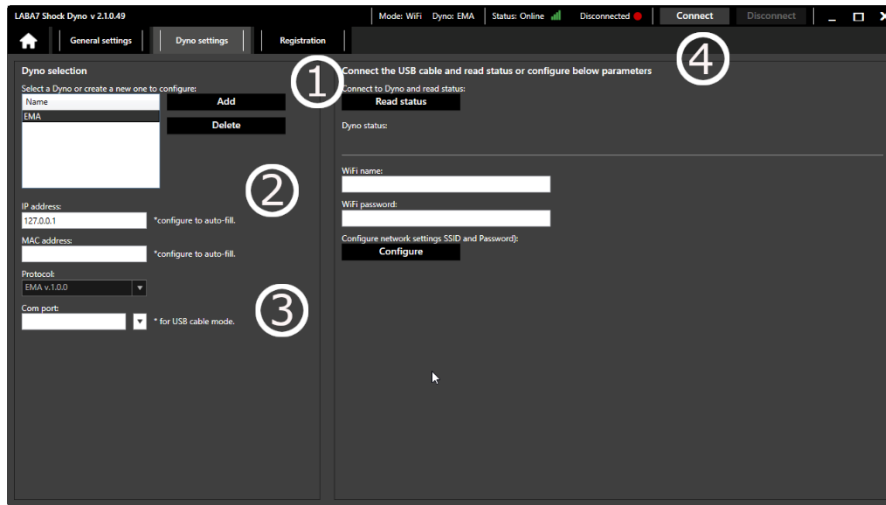

Figure 14
12. Enter the IP address of the device. The IP address is shown on the screen of the power supply. (Figure 14 – Step 2)
13. Select protocol: EMA v.1.0.0 (Figure 14 – Step 3).
14. Press **Connect** (Figure 14 – Step 4). **Connected** status indicates, that the connection is successful.